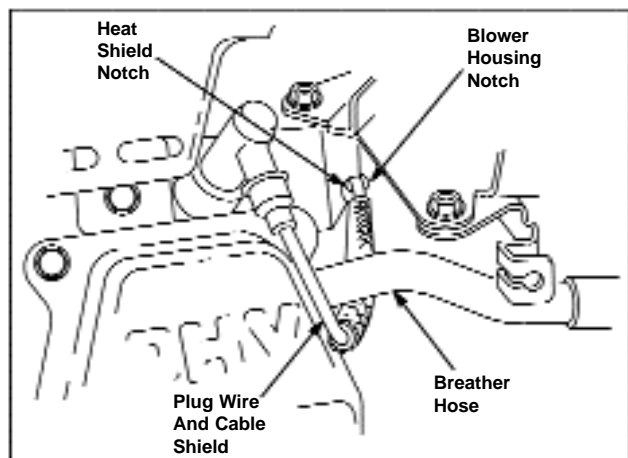

Figure 70 - Wire Routing, Typical
1. Route spark plug wire through notch in heat shield and notch in blower housing, Figure 70.